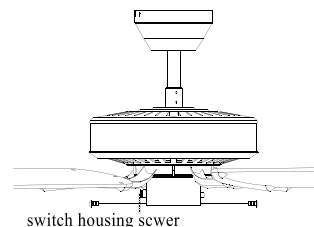

Fig 6
11. For light kit installation, make sure electrical power is turned off. Take the integral light assembly from styrofoam and connect the fan receptacle with the light kit receptacle which has a tag saying "FOR LIGHT KIT CONNECTION". Attach the integral light kit to switch housing and secure tightly by 3 screws (See Fig. 6).